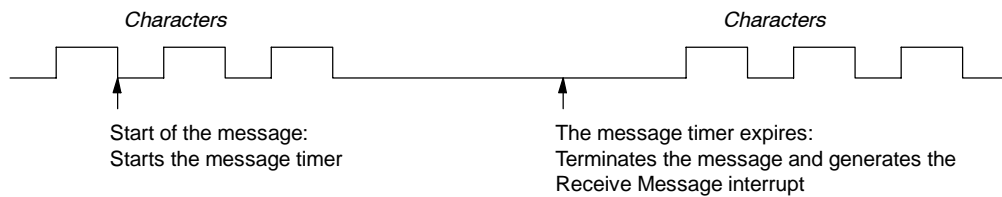

Figure 6-13 Using the Message Timer to Terminate the Receive Instruction
3. **Message timer:** The message timer terminates a message at a specified time after the start of the message. The message timer starts as soon as the start condition(s) for the receive message function have been met. The message timer expires when the number of milliseconds specified in SMW92 or SMW192 have passed. See Figure 6-13.